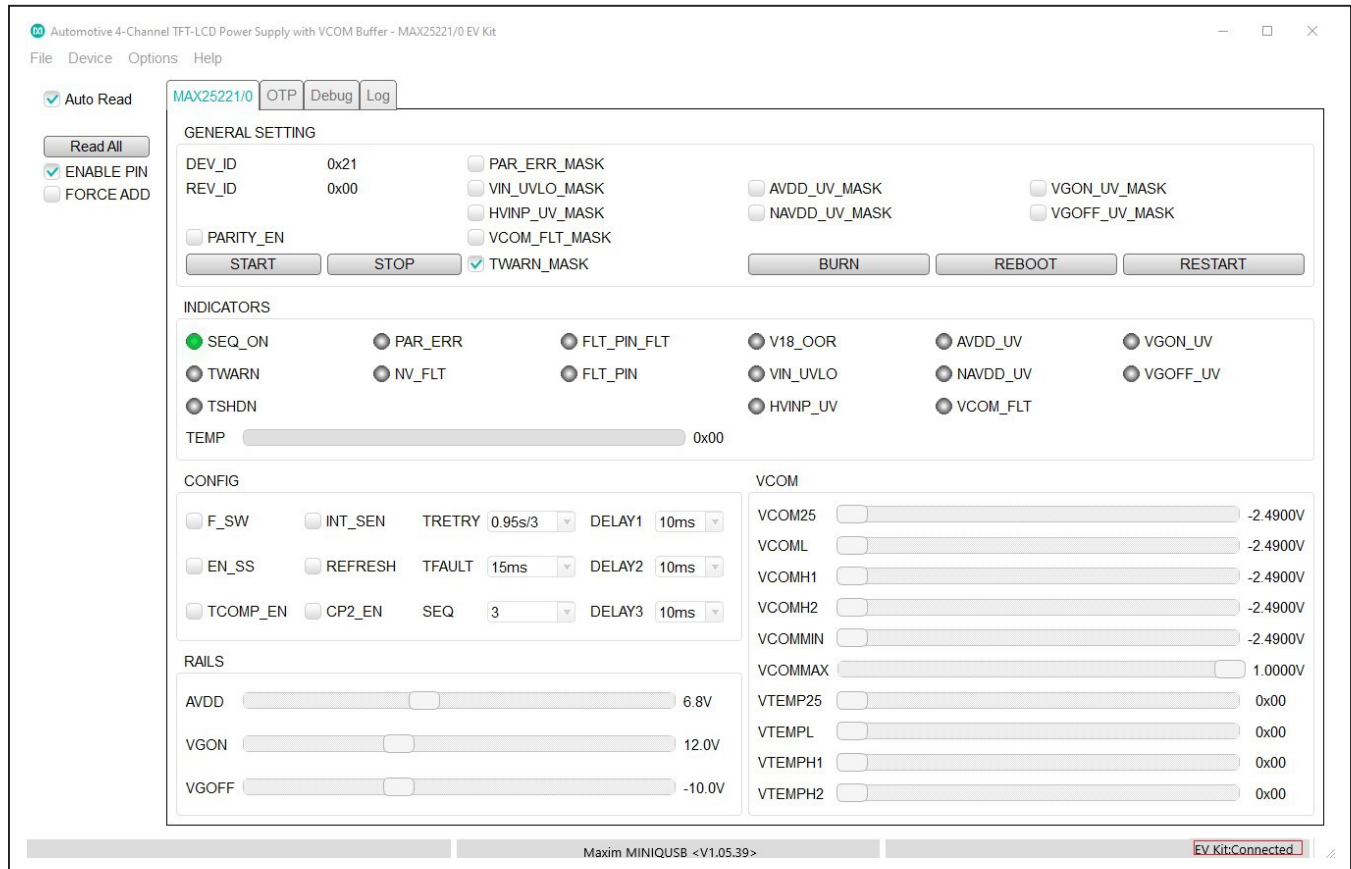

Figure 1. MAX25221 Evaluation Kit Software (GUI)
- From the EV kit software toolbar, select **Device** → **Scan for Address**. The GUI scans the I2C bus for available slave addresses on the bus and selects the first one (in this case, the MAX25221 I2C address with J5 settings: 52H). Press **OK** once the MAX25221/MAX25220 I2C address has been found. Figure 1, is a screen capture of MAX25221 Evaluation Kit Software (GUI).